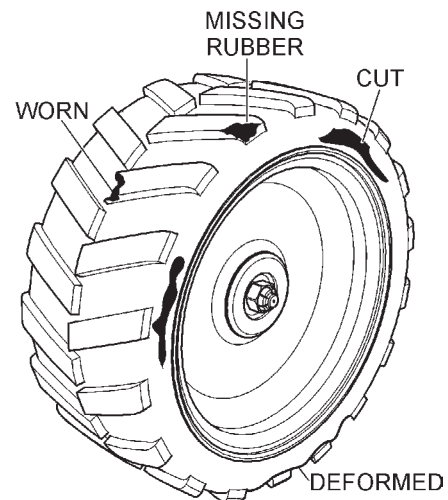

**Figure 6. Fuel Check**
1. Remove the fuel cap (Figure 6) located on top of fuel tank.